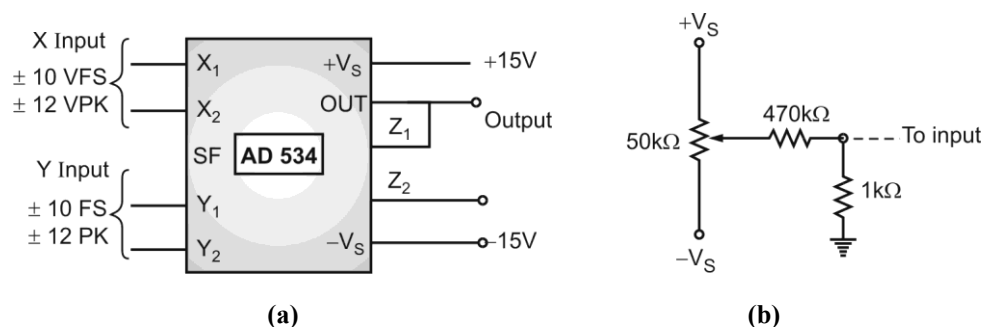

Fig. 5.6.6 : Basic multiplier connection
- Fig. 5.6.6 shows the basic circuit arrangement for multiplication.
- The inputs are applied to x and y inputs. The AC signal feed through can be minimized using the optional trimming circuit as shown in Fig. 5.6.6(b) to the x or y input.